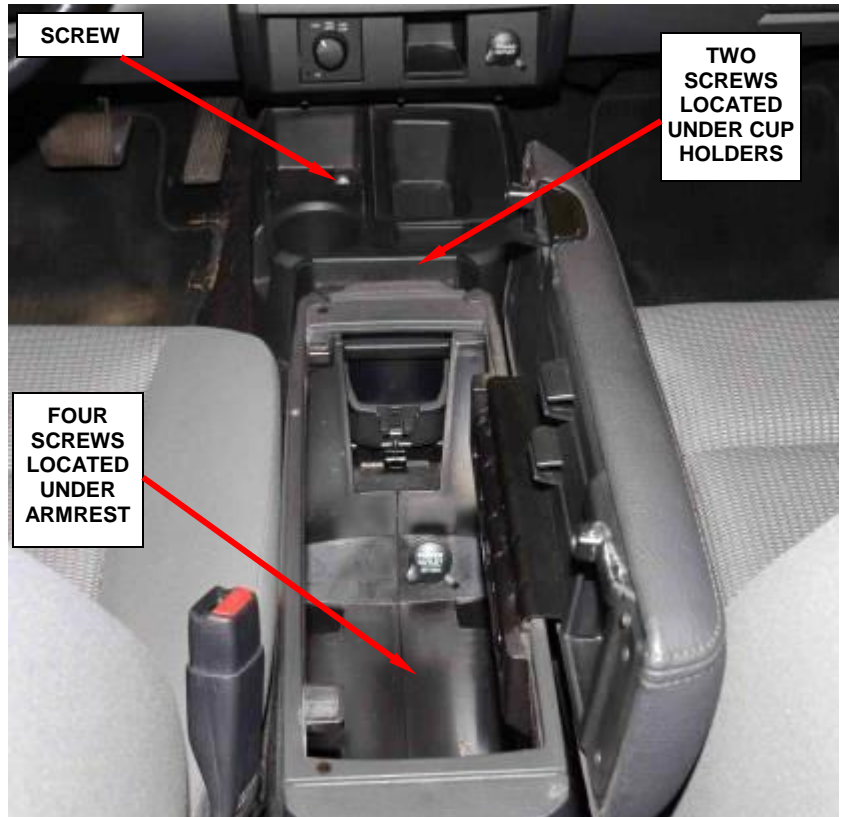

Figure 59 – Floor Console (ATX Shown)
- d. Remove the screws that secure the floor console to the floor panel (Figure 59).